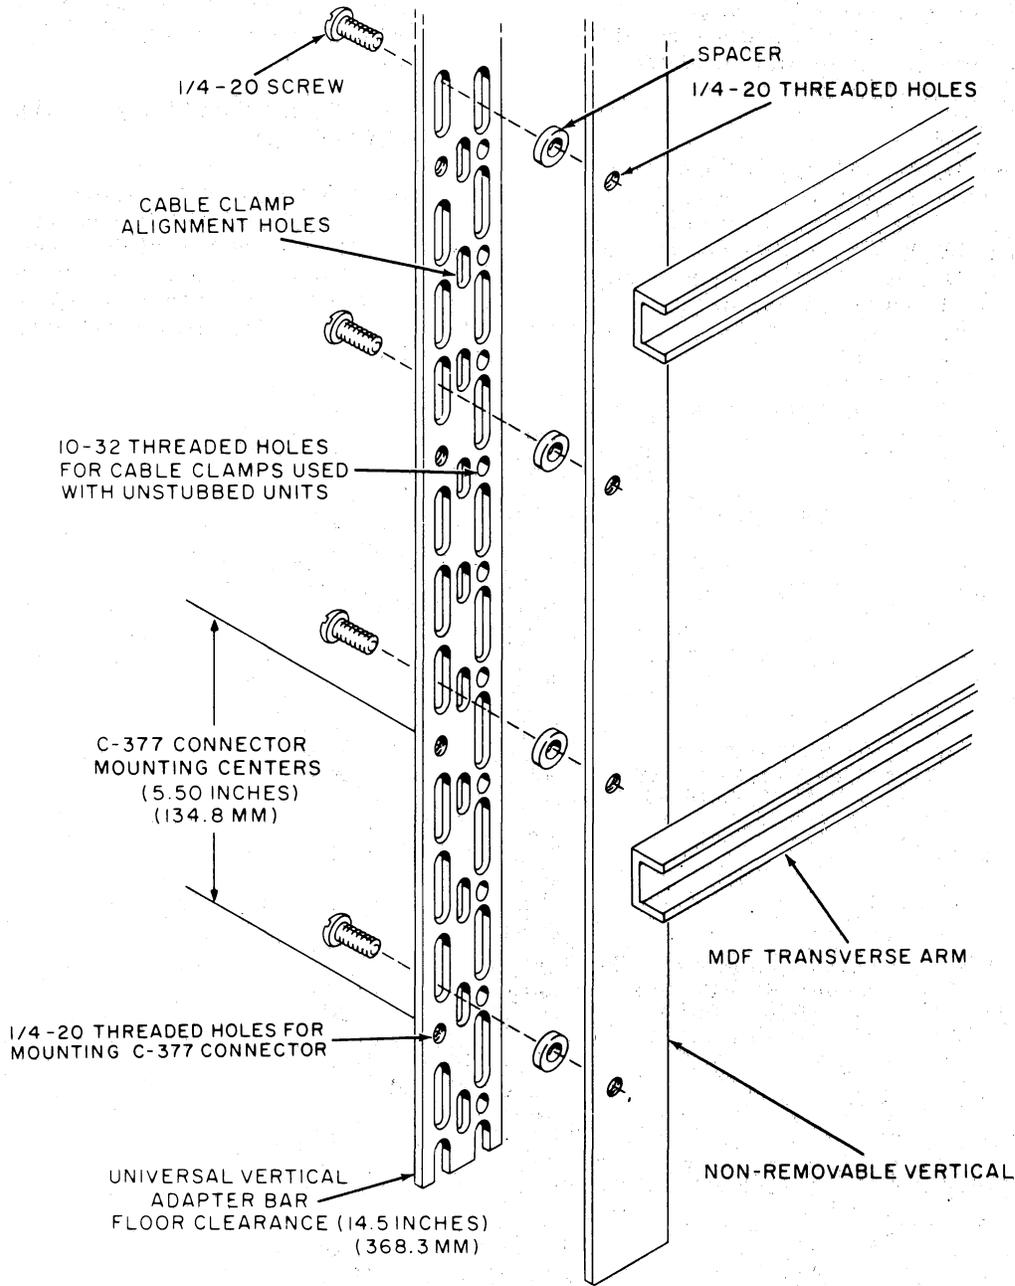

Figure 18. Installation of Universal Vertical Adapter Bar on Non-Removable MDF Vertical
5.02 The Universal Vertical Adapter Bar is also used when the normal vertical cannot be removed. In this case, the Universal Vertical Adapter Bar is bolted to the side of the existing vertical, with spacer washers to provide proper screw clearance (see figure 18).